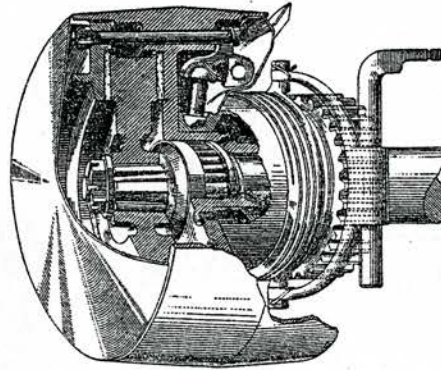

Fig. 26 Belt pulley and clutch. Typical of all A, B, D, G, H
**SERIES A, B, G**—Fig. 26. To remove the belt pulley, disengage the clutch lever and use a screwdriver to pry off the pulley cover. Remove the nuts from the clutch adjusting bolts and take off the clutch adjusting disc.